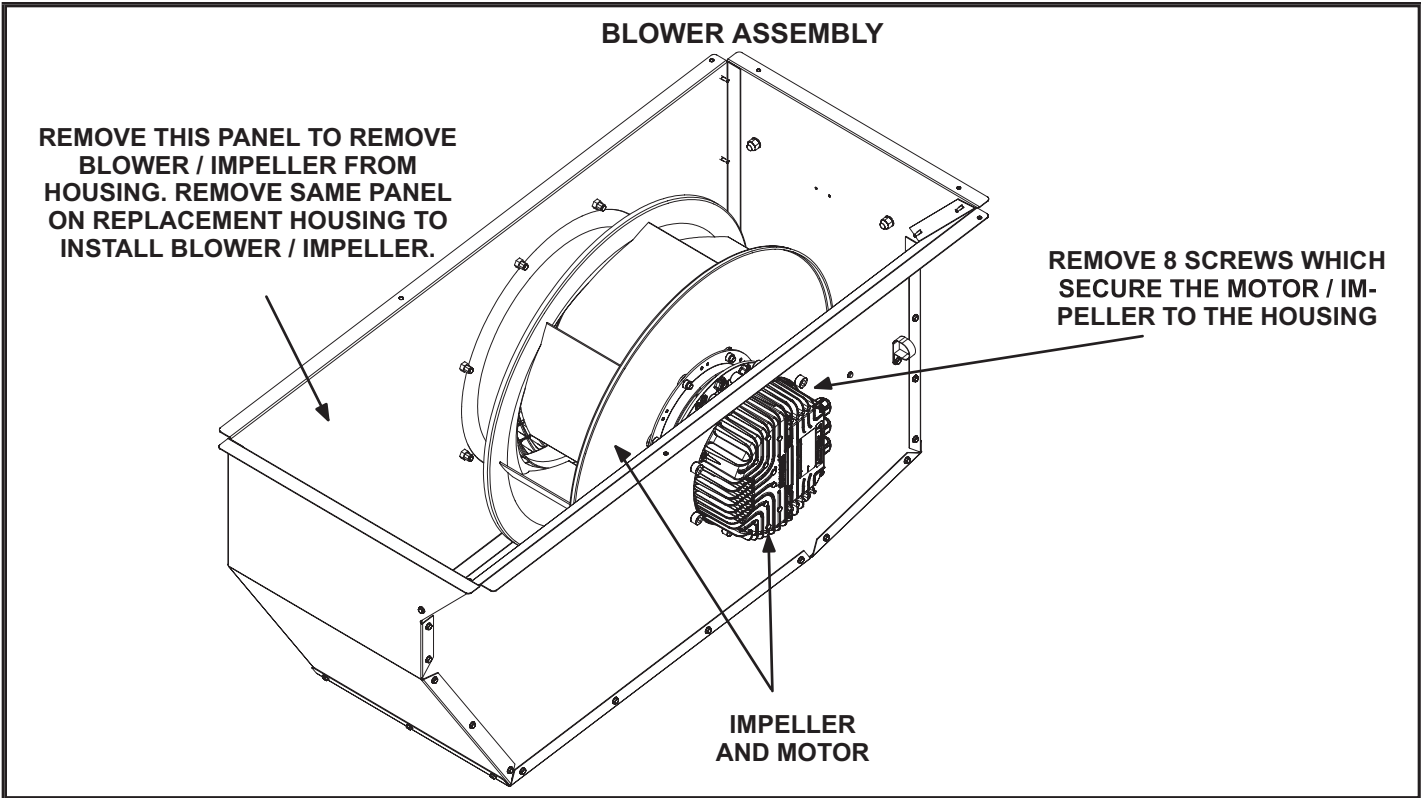
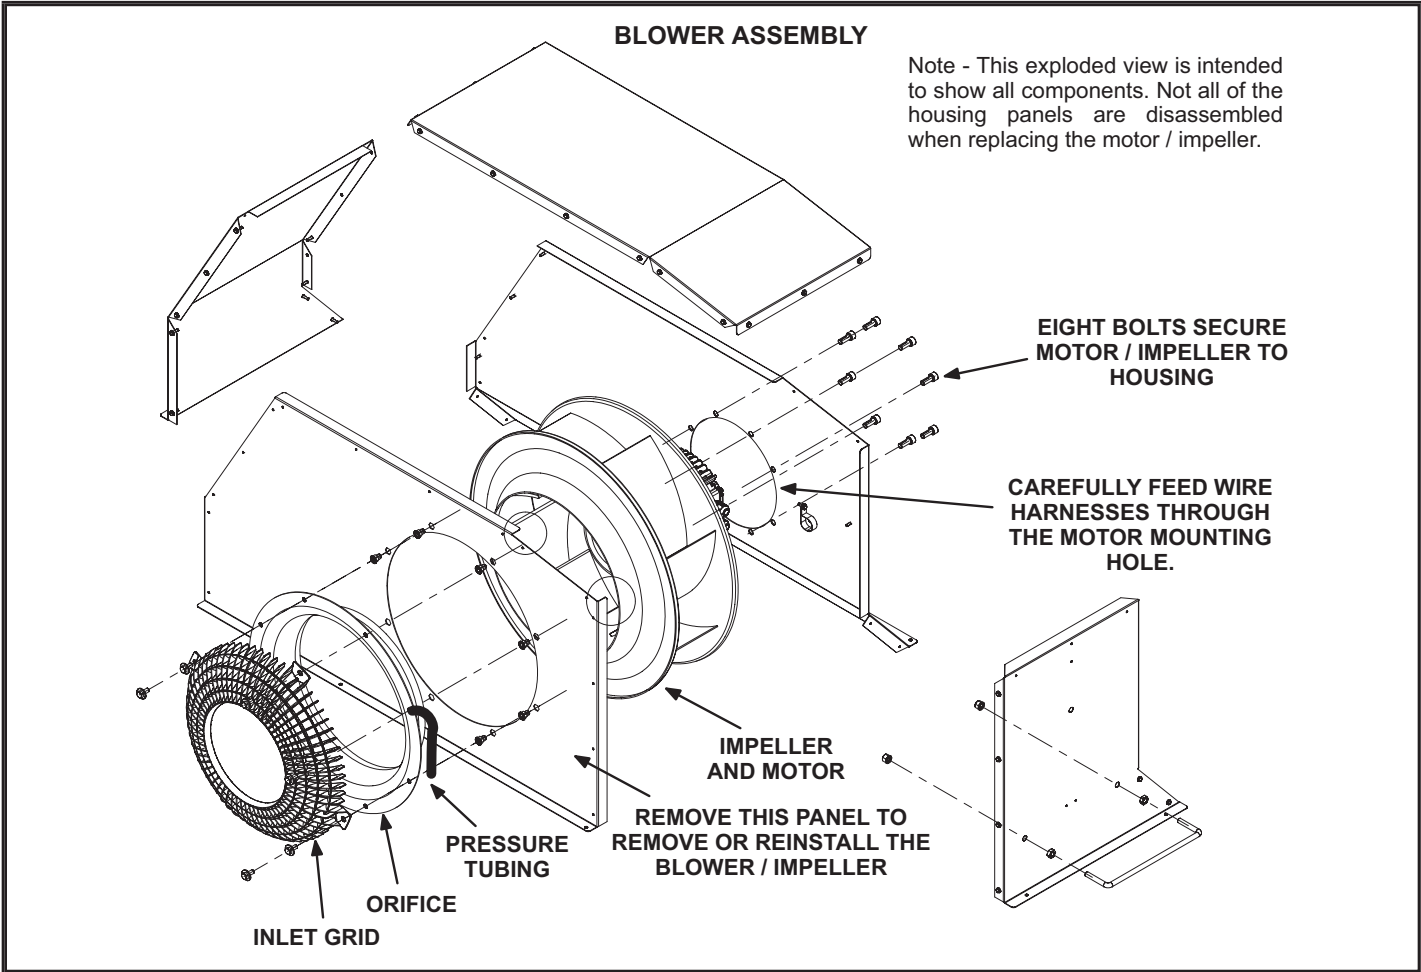

FIGURE 6
FIGURE 7
- 10 - Turn the blower assembly upside down. See FIGURE 6.
- 12 - Carefully remove the inlet grill, orifice with tubing attached, and the side of the housing shown in FIGURE 7.
- 13 - Remove the motor / impeller secured to the existing housing. See FIGURE 6 and FIGURE 7.
- 1 - Remove one side of the replacement housing. See FIGURE 6 and FIGURE 7.